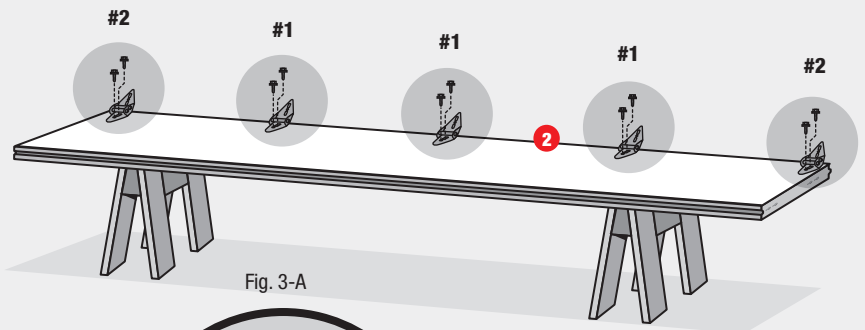

Fig. 3-A
- Attach a #2 hinge to left and right outer top edges using (2) #14 × 5/8" sheet metal screws for each hinge. Attach (3) #1 hinges to each pair of pre-punched holes along top edge of section using (2) #14 × 5/8" sheet metal screws for each hinge (Fig. 3-A).